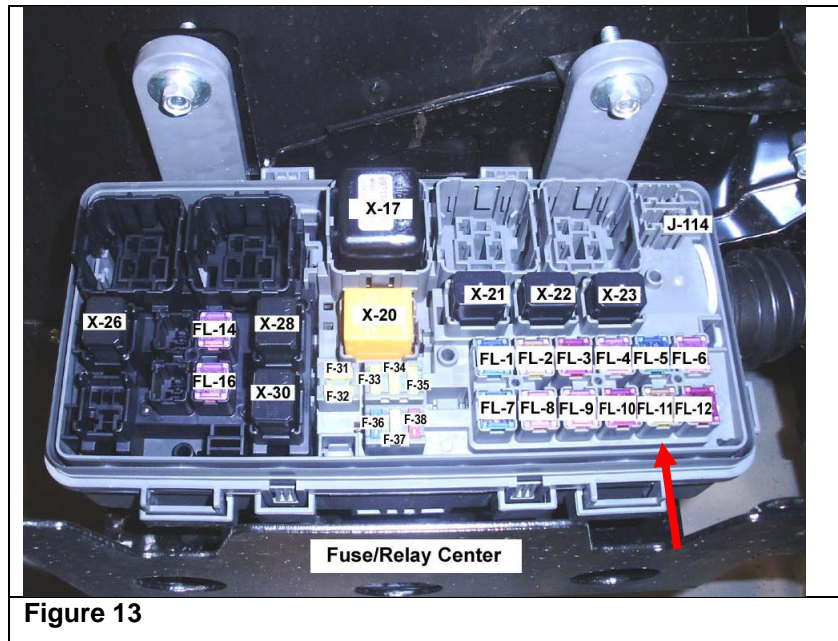

Figure 13
33. Remove the ABS FL-11 Fuse. (See Figure 13.)